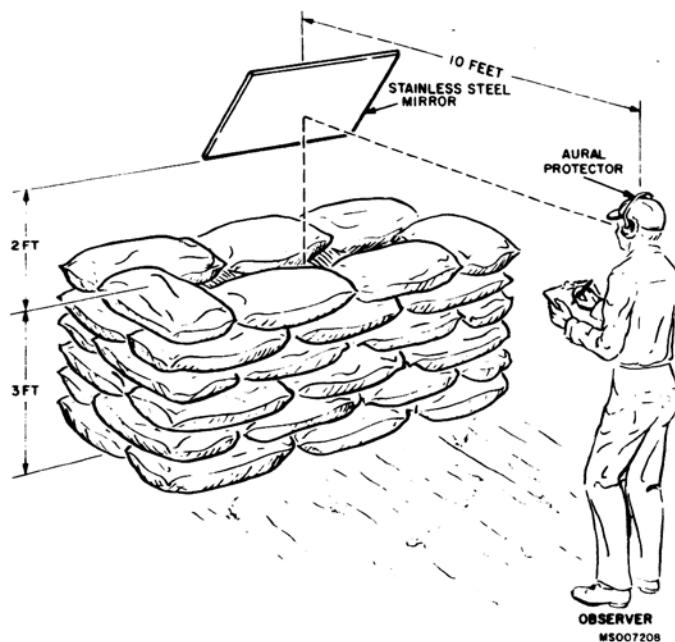

Figure 172.2. Sand bag barricade.
Warning: The air leak portion of the final test must be performed with the UUT placed in a sand bag barricade as shown in figure 172.2 for observer protection during performance of the air leak test.
- (e) Erect the sandbag barricade to a height of about 3 feet around the container. The sand bags should be stagger stacked (fig. 172.2) for strength and stability of the barricade.